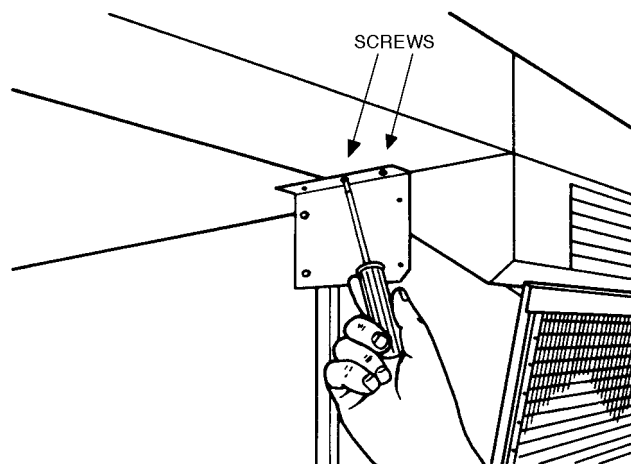

FIGURE 8 — BRACKET FLANGE SCREWS
4. Locate and remove the 2 screws that secure the lateral duct extension to the bracket flange as shown in Figure 8.